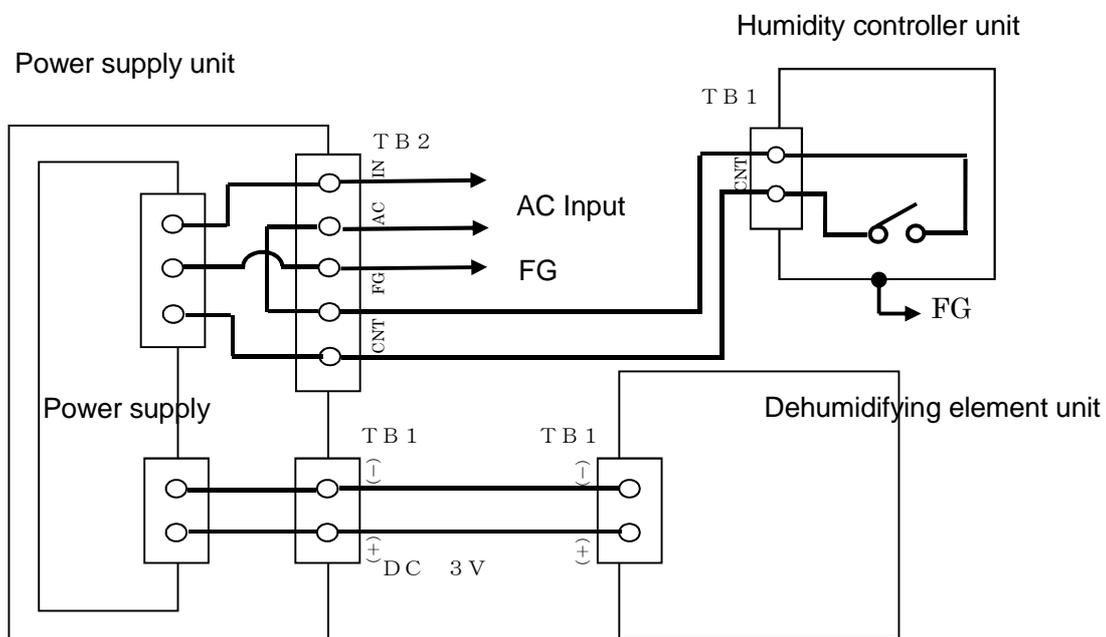
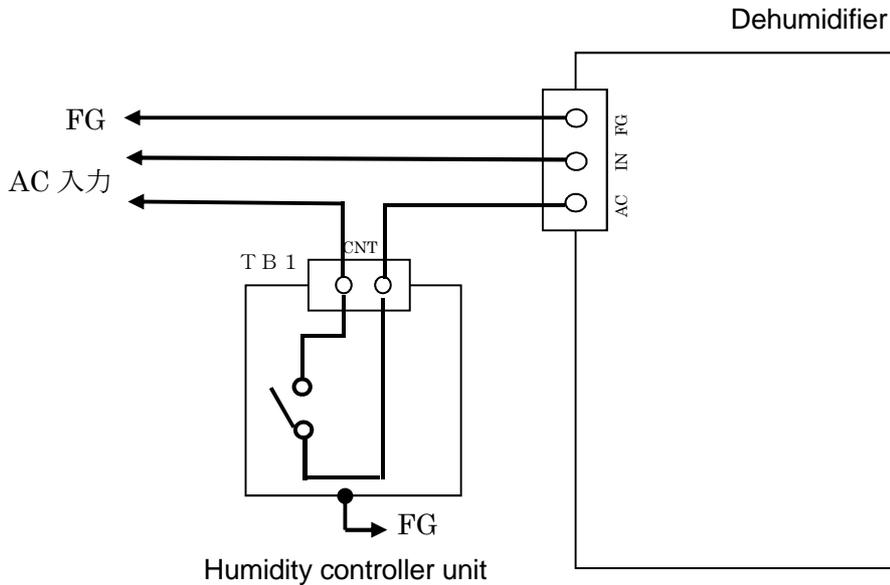

Fig. 2 Circuit diagram between the unit (in the case of Separate Type Dehumidifier / RDHB)
Fig. 3 Circuit diagram between the unit (in the case of General Dehumidifier / RDH)
Please refer to Fig. 2 and Fig. 3 for the connection with ROSAHL. In addition, please connect to FG for earth ground.
- b) Is the connection between each unit correct? (Refer to Fig.3)